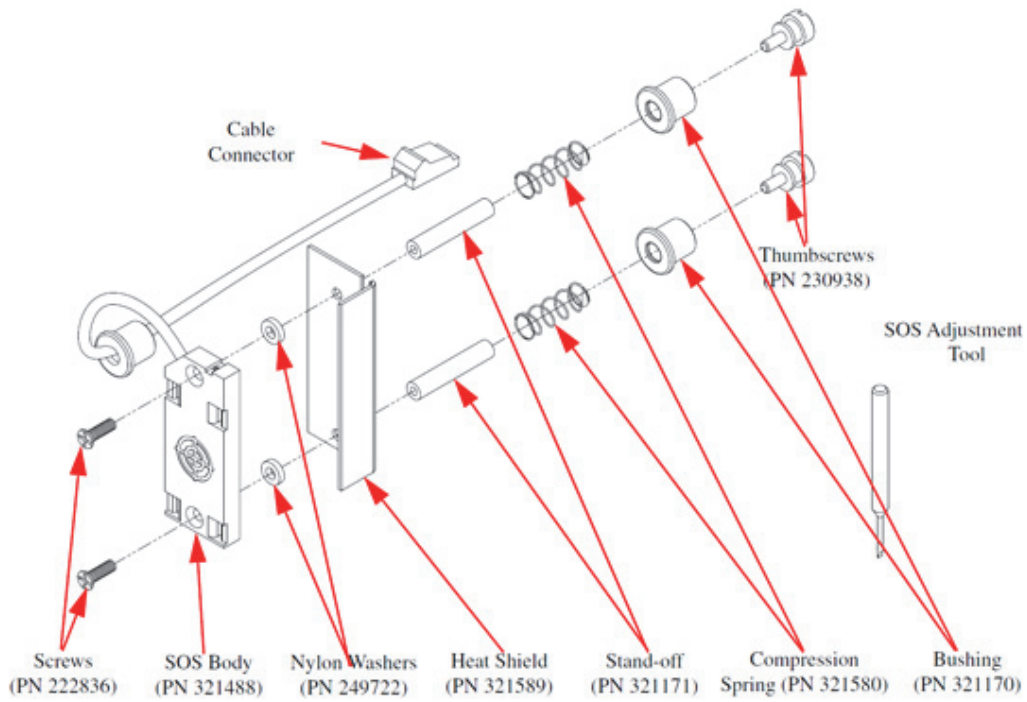

Figure 10.11. Sparge Overfill Sensor
1. Place the SOS on the heat shield (PN 321589) with the printed side down and the target (cross) side up (see Figure 10.11, “Sparge Overfill Sensor” on page 184).
2. Insert the screws (PN 222836) into the holes on the SOS. Place nylon washers (PN 249722) and heat shield (PN 321589) on screws behind the SOS and attach the brass standoffs (PN 321171). Refer to Figure 10.11.